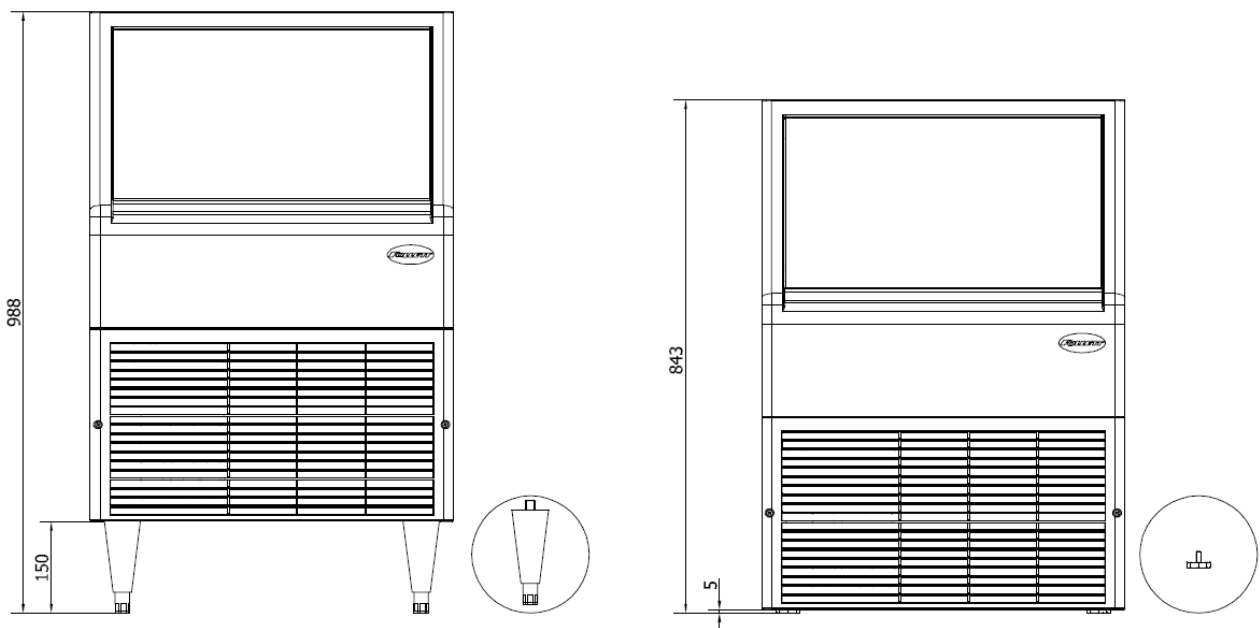

Fig. 2
- Tip unit and screw in supplied leveling feet (**Fig. 2**)